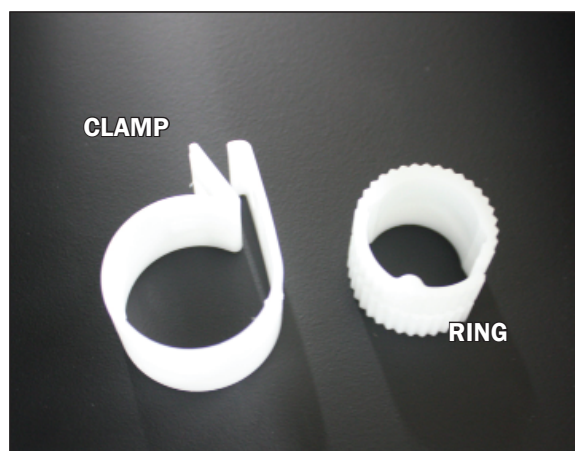

Fig. 11 LED ring and clamp
1. Place a ring (Fig. 11) around each end of the light rod and rotate until both edges of the rod line-up and snap ahold to the ridges in the ring.
2. Slide a clamp (Fig. 11) over each ring and close them tight around the rings by clipping together the clamp ends located above the screw opening.